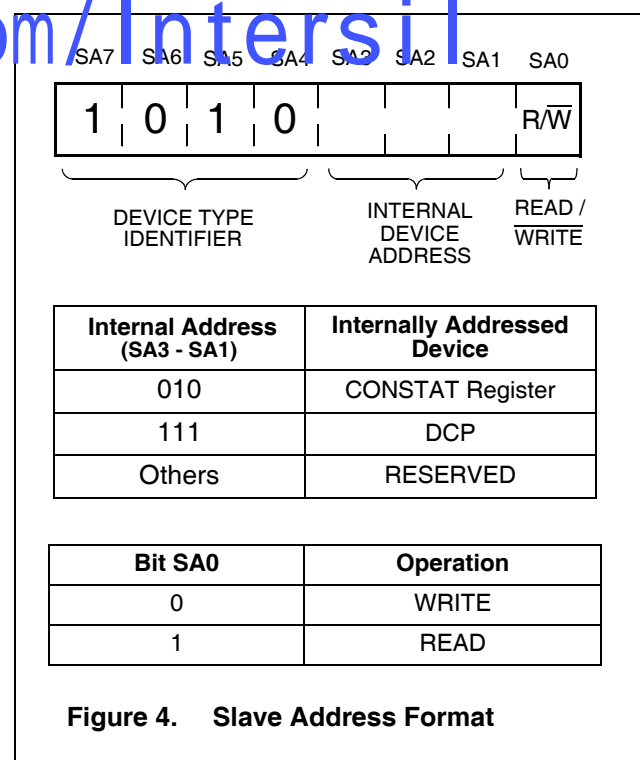
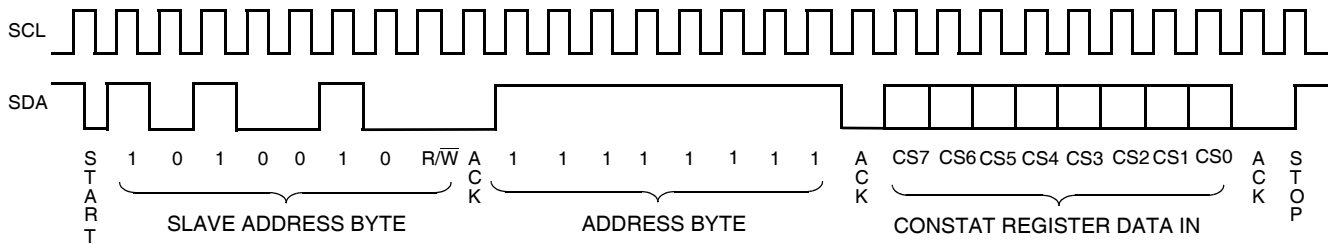

Figure 4. Slave Address Format
Figure 12. CONSTAT Register Write Command Sequence
Following a START condition, the master must output a Slave Address Byte (Refer to Figure 4.). This byte consists of three parts:
- The Least Significant Bit of the Slave Address (SA0) Byte is the R/W bit. This bit defines the operation to be performed on the device being addressed (as defined in the bits SA3 - SA1). When the R/W bit is "1", then a READ operation is selected. A "0" selects a WRITE operation (Refer to Figure 4.)
Writes to the WEL bit do not cause an internal high voltage write cycle. Therefore, the device is ready for another operation immediately after a STOP condition is executed in the CONSTAT Write command sequence (See Figure 12).
- After a successful write operation to any bits of the CONSTAT register has been completed (See Figure 12).
The CONSTAT register is accessed using the Slave Address set to 1010010 (Refer to Figure 4.). Following the Slave Address Byte, access to the CONSTAT register requires an Address Byte which must be set to FFh. Only one data byte is allowed to be written for each CONSTAT register Write operation. The user must issue a STOP, after sending this byte to the register, to initiate the nonvolatile cycle that stores the DWLK bit. The X9522 will not ACKNOWLEDGE any data bytes written after the first byte is entered (Refer to Figure 12.).